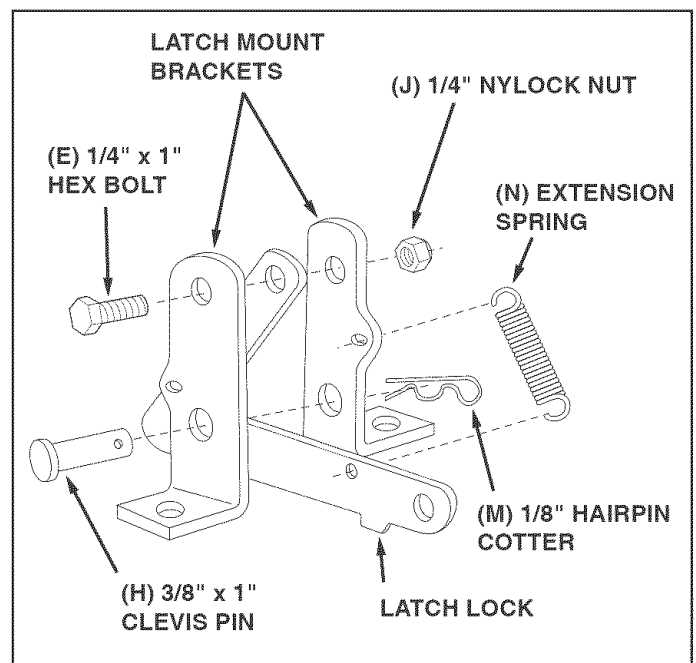

FIGURE 1
STEP 1: (SEE FIGURE 1)
- Assemble the latch lock between the latch mount brackets using a 1/4" x 1" hex bolt (E) and a 1/4" nylock nut (J). Tighten so that the latch lock can still pivot. Attach the extension spring (N) to the latch lock and the latch mount bracket.
- Insert the 3/8" x 1" clevis pin (H) through the holes in the latch mount brackets and secure with an 1/8" hairpin cotter (M).
IMPORTANT: Leave the latch lock clevis pin in place at all times while using the cart as a push cart. The clevis pin is shown in figure 1 on page 4.